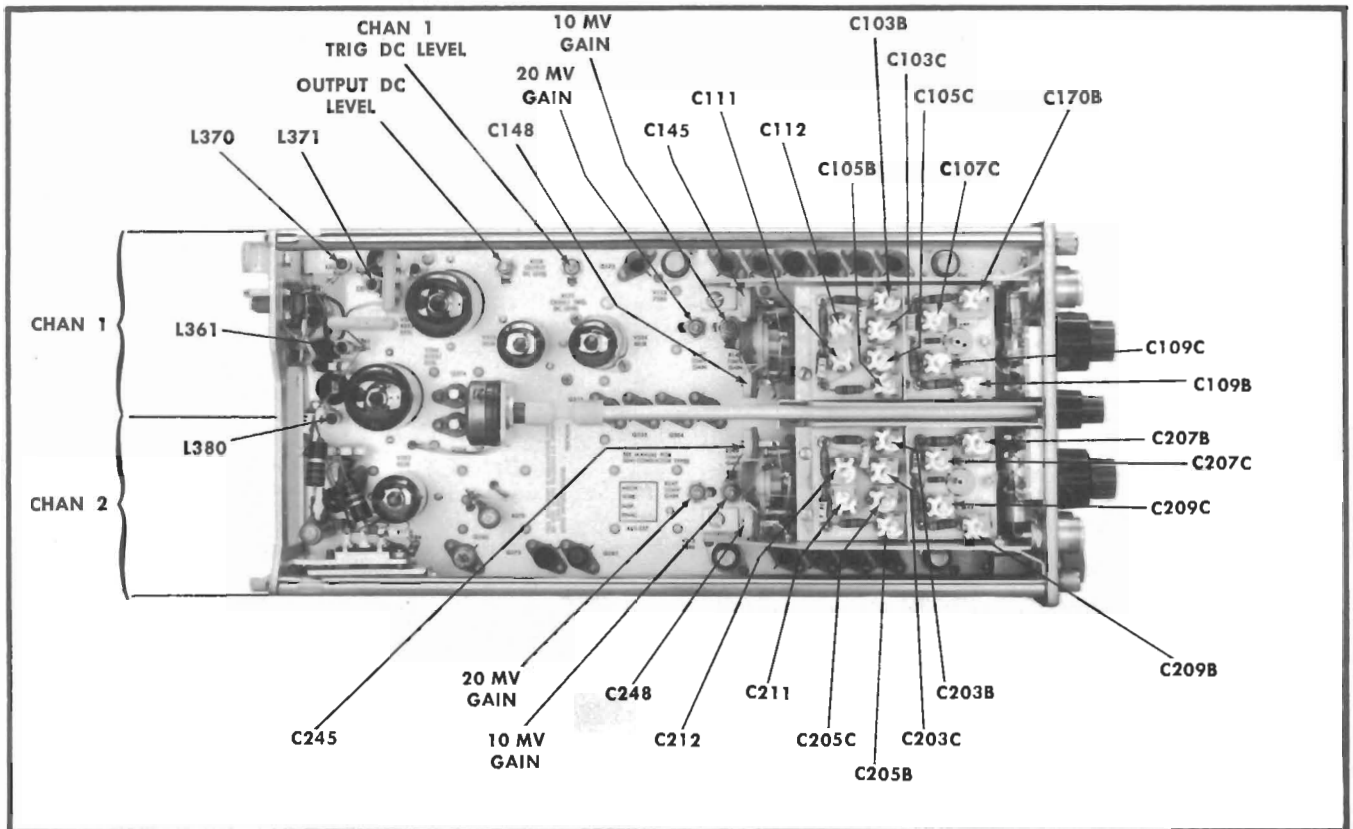

Fig. 5-5. Type 3A1S, left side view.
- Adjust OUTPUT DC LEVEL R328 (Fig. 5-5) so the average of the two voltages is +150 volts; for example, one plate at +140 and the other at +160 volts.
- Connect the dc voltmeter to R389 at switch SW390 (see Fig. 5-5).
- Adjust CHAN 1 TRIG DC LEVEL R171 (Fig. 5-5) for zero volts on the meter.
- Adjust 20 MV GAIN R147 (Fig. 5-5) for five major divisions of vertical deflection.
- Adjust 10 MV GAIN R249 (Fig. 5-5) for cancellation of the display shown by a single line of trace.
- Adjust 20 MV GAIN R247 (Fig. 5-5) to cancel the display.
- m. Adjust L361, L371, L370, and L380 (Fig. 5-5) for the flattest area immediately following the leading corner on the top of the waveform. (L370 and L380 affect the area of the waveform closest to the leading corner while L361 and L371 affect the waveform at a slightly later point.
- p. Adjust C148 (Fig. 5-5) for the squarest corner on the waveform.
- w. Adjust C248 (Fig. 5-5) for a square leading corner on the waveform.